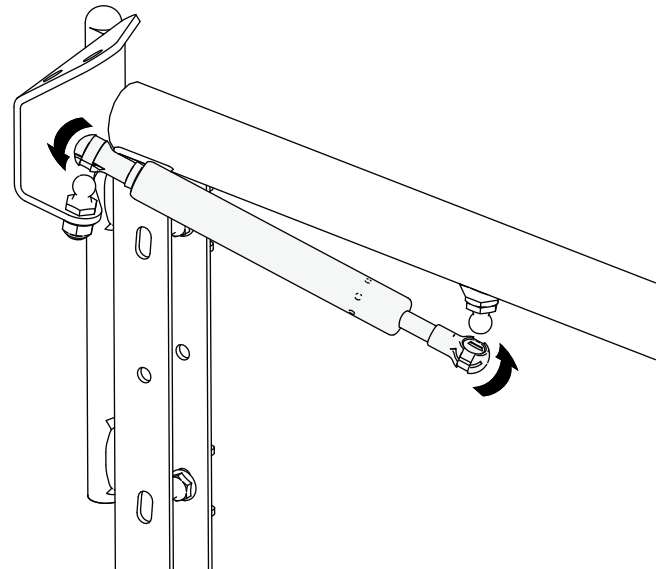

Figure 12
- Install a gas spring to the studs as shown in Figure 12, with the fixed end attached to the upper hinge.